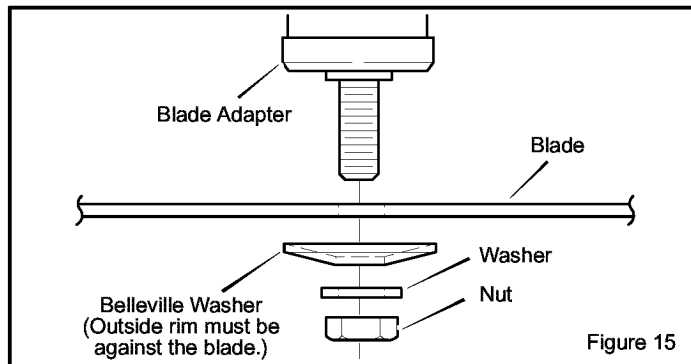

Figure 15
9. Fasten the **blade** with the original washers and **nut**. Make sure the outside rim of the **Belleville washer** is against the **blade** (Figure 15).